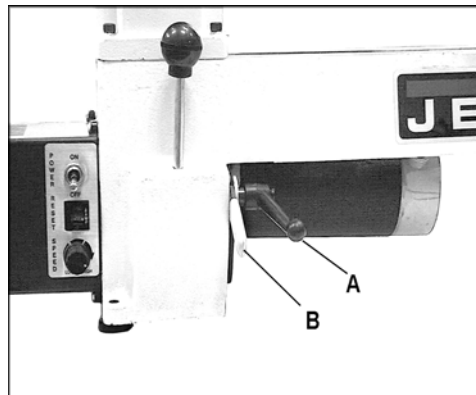

Figure 12
3. Loosen the motor plate lock handle (A, Figure 12). Lift up on the motor plate handle (B, Figure 12) to take tension off the belt.
5. Tension the belt by pushing down on the motor plate handle (B, Figure 12) and lock in place.